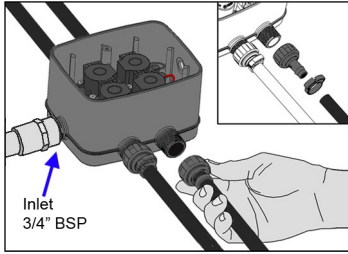

Fig 1
1. Connect the water supply to the 3/4" BSP tapered inlet thread of the eZyvalve™4 box (h). Use only plumbers thread tape to seal threads - **DO NOT use pipe sealant paste**. Connect your irrigation lines to each of the four 3/4" BSP parallel threaded outlets (Fig 1). Cap any unused outlets.